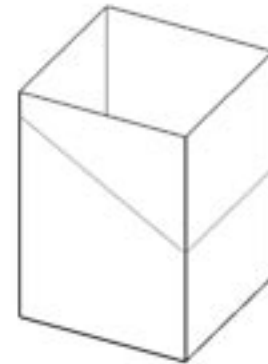

Figure 18
1. Mark a line on the side of the Cathedral Ceiling Support Box to correspond to the line of the roof pitch. Allow for the Support Box to protrude below the finished ceiling a minimum of 2 in (5 cm). See Figure 18.